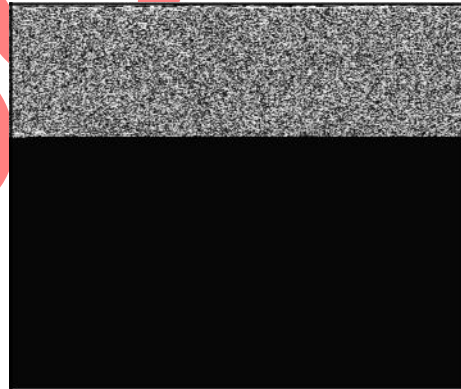

Figure 28
2. Insert RED test lead (A, Figure 28) into the V Ω receptacle in the meter.
3. Insert BLACK test lead (B) into COM receptacle.
5. Insert RED (A) and BLACK (B) test lead probes into output terminals (D & E) in YELLOW connector (C). (Test clip leads may be attached to either terminal).